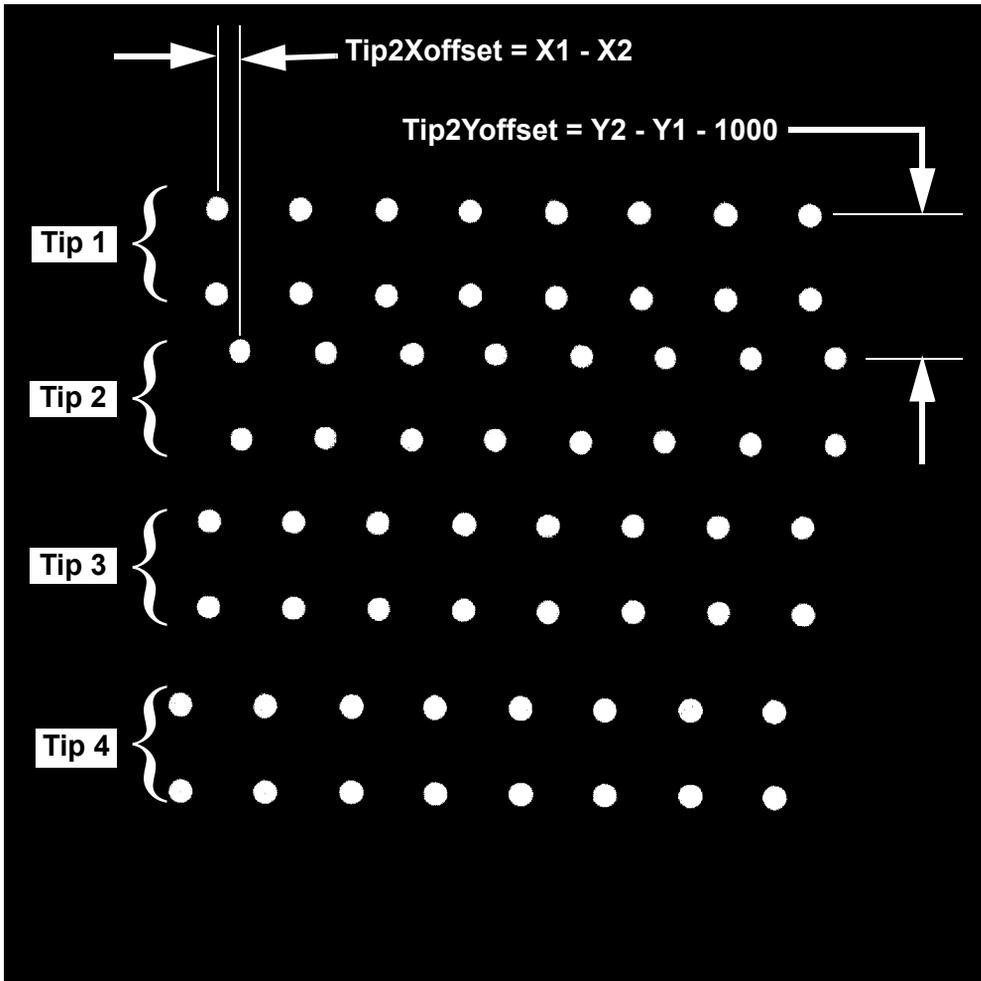

Figure 10-17. XY Tip Calibration - Before Offsets Applied.
15. From the scanned image (Figure 10-17), measure and record the values in microns ($\mu\text{m} = 0.001 \text{ mm}$) for the *Absolute* columns in the table below.